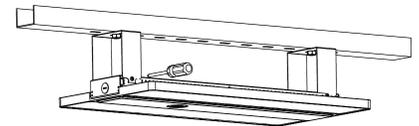

Fig. 7
2. Install the luminaire to the brackets and affix it with screws. (Fig. 7)